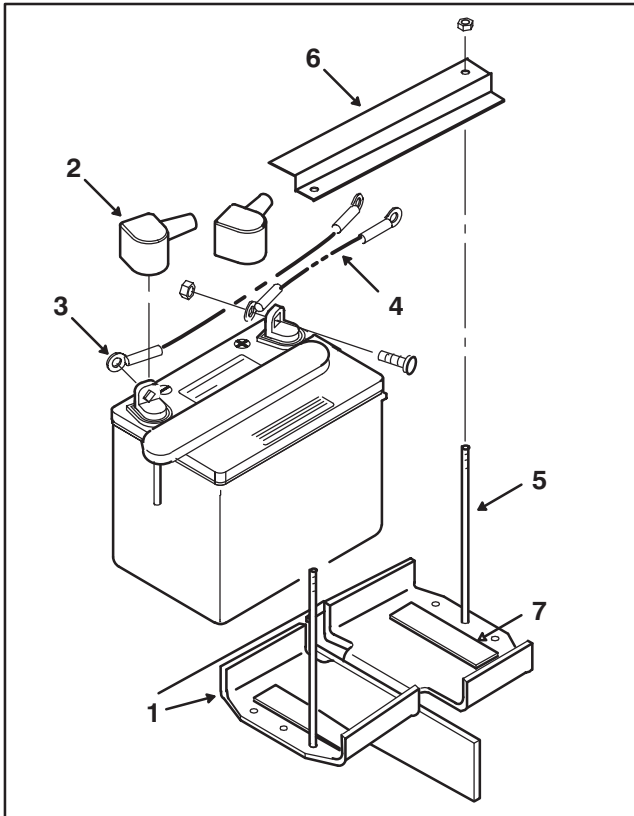

Figure 6
7. Mount battery to holders with (2) support rods, battery clamp and (2) locknuts. Position support rods in mounting holes as shown in fig. 6. Tighten locknuts so battery is held securely in position and will not slide. DO NOT OVERTIGHTEN.